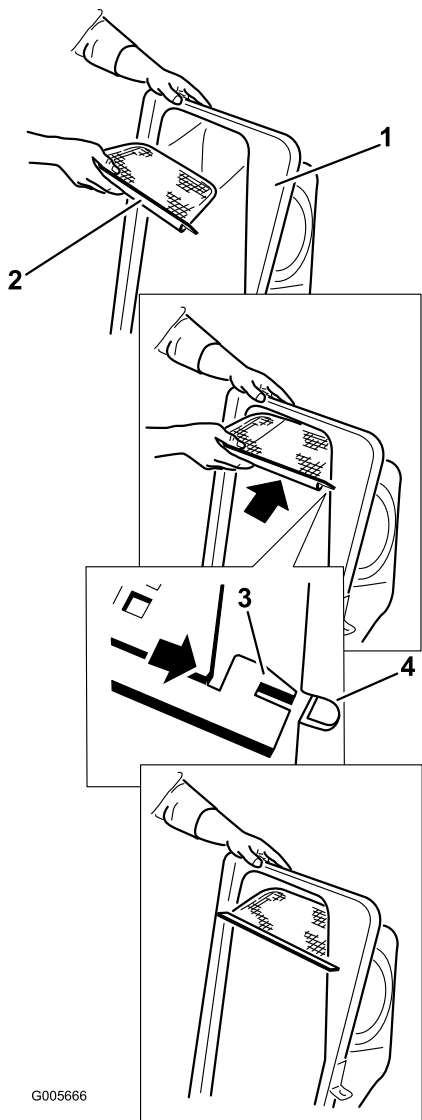

Figure 14
2. Install the screen as shown in Figure 14 and that it slopes down toward the collection bags.